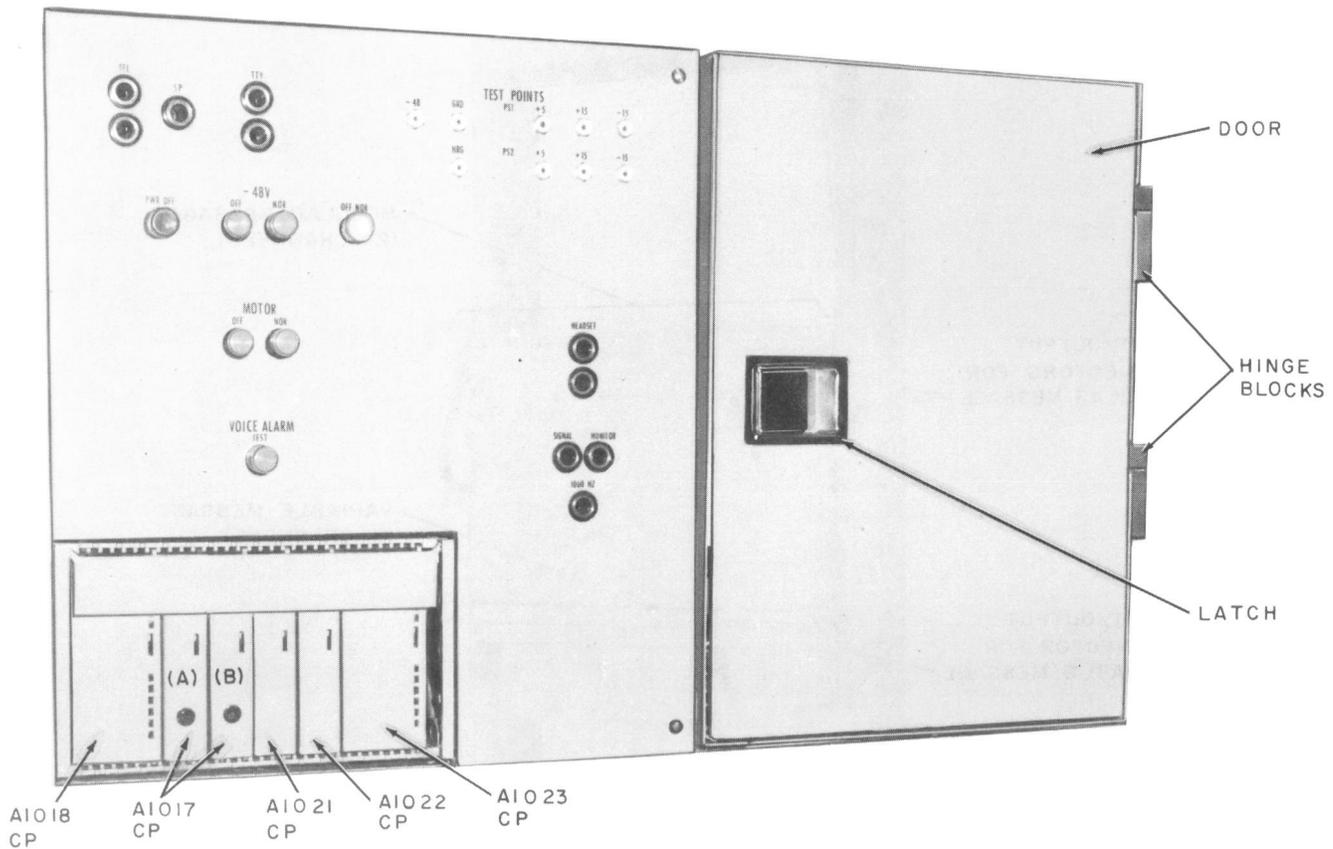

Fig. 2—Storage Module (For VML, MM, and PM Only)
- (1) Ensure that the CONTROL OFF keys on all control units on the frame are depressed.
- (2) Check that the MOTOR OFF key (Fig. 2) on the storage module is depressed.
- (3) The PWR OFF and OFF NOR lamps on the storage module should be lighted.
- (1) Notify the traffic department and receive approval for shutdown of the frame.
- (2) Depress the CONTROL OFF key on all control units.
- (3) Depress the MOTOR OFF key (Fig. 2) on the storage module.
- (4) Depress the -48V OFF key on the storage module. The CSRAF is now out of service.
- (1) Request that no operations be made at the dedicated telephone while resetting memory.
- (2) Connect the headset or handset into HEADSET jack (Fig. 2) on the storage module.
- (3) Insert one plug of the W1 patch cord into SIGNAL jack on the storage module and the other plug into the TMS jack on the appropriate VML control unit.
- (4) At the control unit of the channel to be reset, depress the CHANNEL TEST key.
(5) Depress and hold RECORD MEM key.
(6) Monitor the recording.
(7) At the end of the message, release the RECORD MEM key **immediately**.
(8) Monitor the recording to insure correct message length.
(9) Depress CHANNEL NOR key.
(10) Remove patch cord and headset or handset.
- (e) If the LED on the front panel of the A1017 clock circuit pack in the "A" position in the storage module (Fig. 2) is on, operations are being performed at the dedicated telephone which will affect the recording procedure. Do *not* access any channel.
- (1) Request that no operations be made at the dedicated telephone while making the recording.
- (1) Request that no operations be made at the dedicated telephone while the recording is being made.
- (2) Connect the plug of the headset or handset to HEADSET jack on the storage module (Fig. 2).